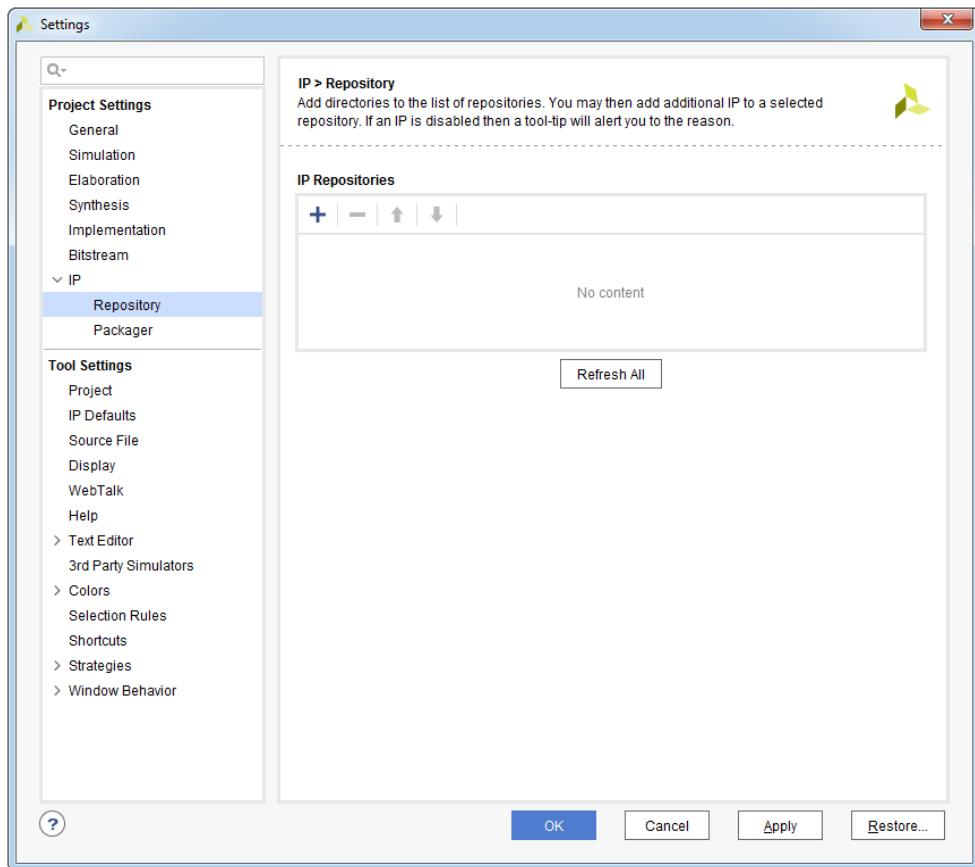

Figure 12.25: Repository window
33. In the **Settings** dialog box, expand **IP** option from the left pane and select **Repository** command, see Figure 12.25.
34. In the **Repository** window, click + icon to add the desired repository, see Figure 12.25.